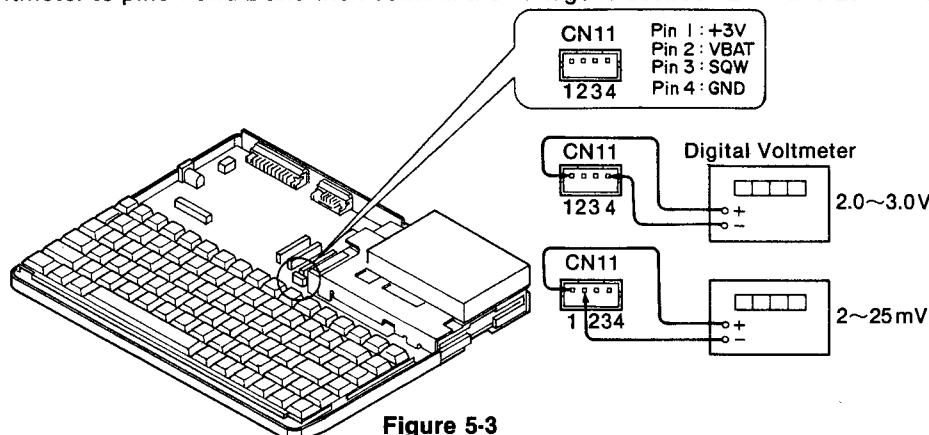

Figure 5-3
- 2-3) Connect the voltmeter to pins 1 and 2 and then confirm the voltage is between 2mV and 25mV as shown in Figure 5-3.